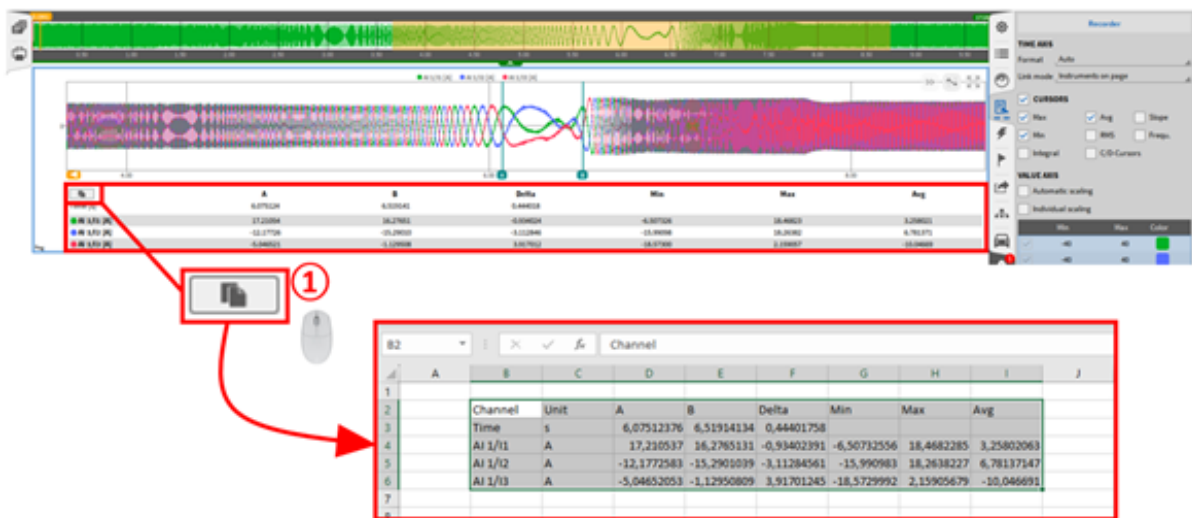

Fig. 8.22: Copy cursor values to clipboard
It is also possible to copy the displayed cursor values directly from the instrument in use to the clipboard and paste them into an Excel file or a simple text file, for example. To do this, simply click on the copy button displayed on the left above the table of cursor values (see ① in Fig. 8.22) or you can simply click in the instrument with the left mouse button and copy the values with the key combination “CTRL + C”.